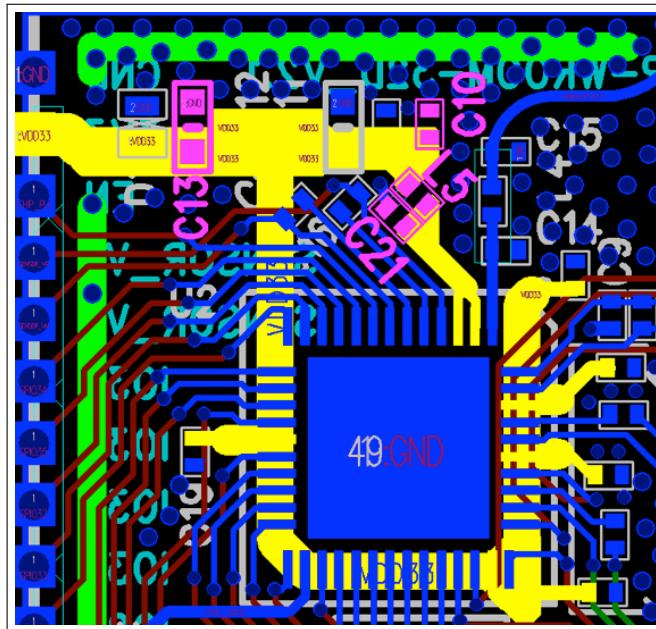

Figure 18: ESP32 Power Traces in a Four-layer PCB Design
- The 3.3 V power traces, highlighted in yellow, are routed as shown in Figure 18. The width of the main power traces should be greater than 25 mil. The width of the power traces for pin3 and pin4 should be at least 20 mil. The width of other power traces should be within the range of 12 ~ 15 mil.
- As shown in Figure 18, an ESD protection diode is placed close to the power port (marked in red circle). A 10 μ F capacitor is required before the power trace connects the ESP32 chip, to be used in conjunction with a 0.1 μ F capacitor. Then the power routing is divided into two ways. The power rails of pin3 and pin4 should be routed together to reduce the coupling between different power pins.
- It is required to place C (capacitor) and L (inductor) near the power pins pin3 and pin4. As shown in Figure 18, C13 (10 μ F) is placed at the entrance of the power, and C10, L5, and C21 are placed near the chip's analog power pins. When possible, add a 0.1 μ F capacitor to each digital power supply pin. Note that all decoupling capacitors should be placed close to the power pin, and ground vias should be added adjacent to the ground pin for the decoupling capacitors to ensure a short return path.